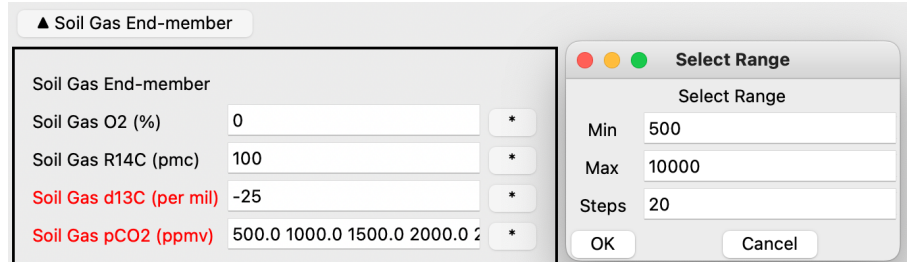

Figure 2: Example of varying an input in steps. This functionality facilitates the generation of multiple models.
- Click the asterisks (*) next to certain inputs can generate linearly spaced arrays of input values, allowing you to run multiple models (Figure 2).